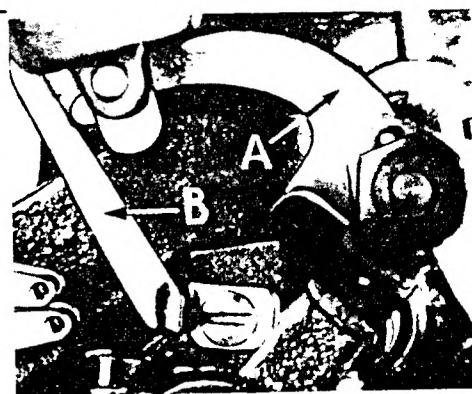

Fig. 4
If needle thread cam pull-off (A, Fig. 4) overlaps looper thread pull-off (B), separate by moving looper thread pull-off back. When retightening looper pull-off screw, be sure to take up end play in needle driving arm.